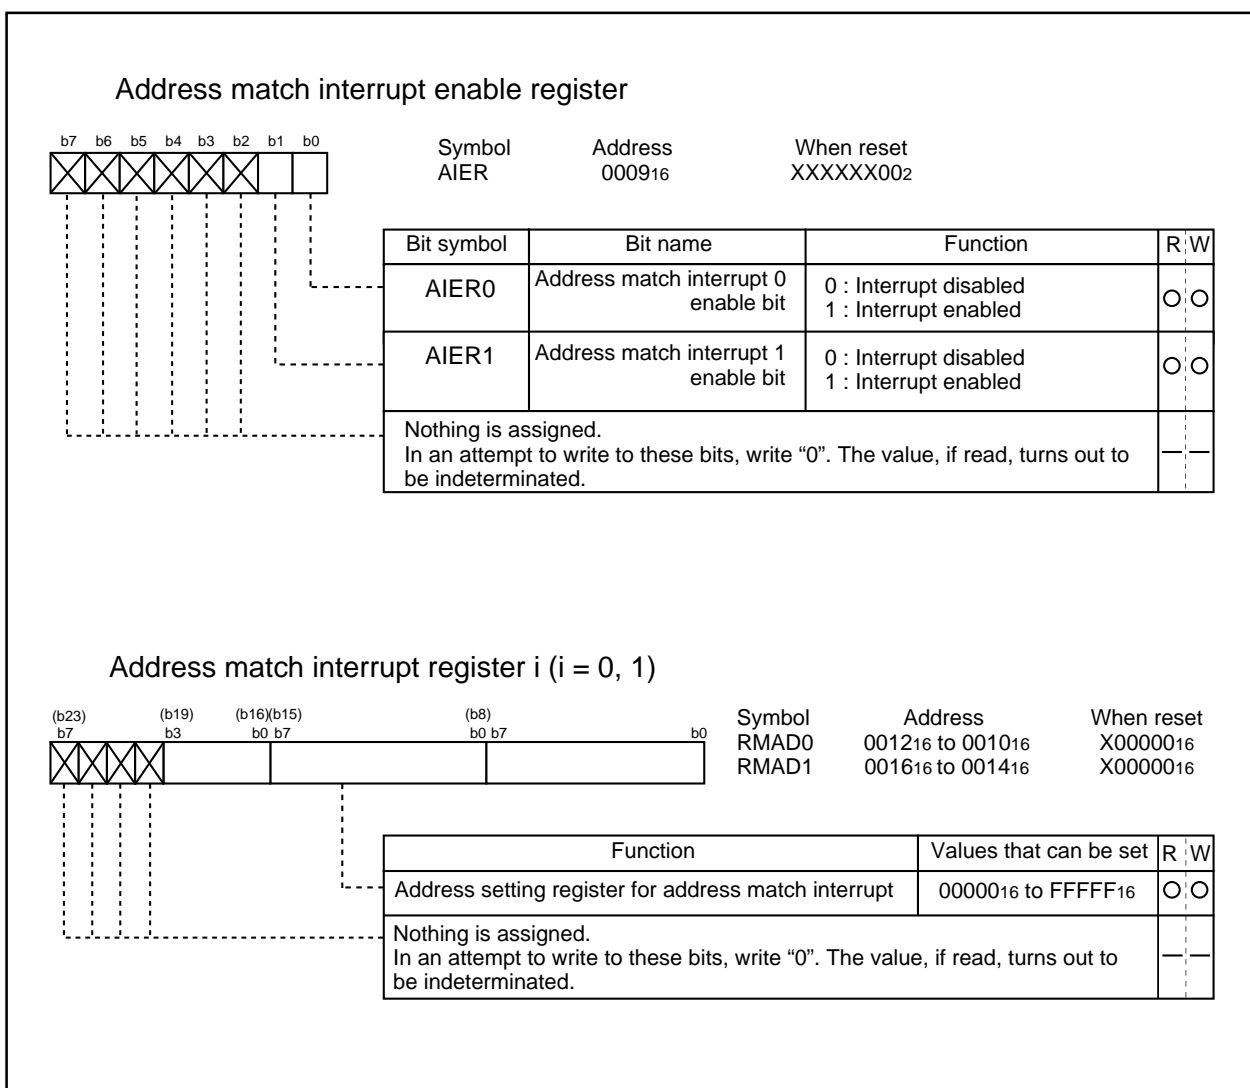

Figure 1.11.12. Address match interrupt-related registers
An address match interrupt is generated when the address match interrupt address register contents match the program counter value. Two address match interrupts can be set, each of which can be enabled and disabled by an address match interrupt enable bit. Address match interrupts are not affected by the interrupt enable flag (I flag) and processor interrupt priority level (IPL). The value of the program counter (PC) for an address match interrupt varies depending on the instruction being executed. Note that when using the external data bus in width of 8 bits, the address match interrupt cannot be used for external area. Figure 1.11.12 shows the address match interrupt-related registers.